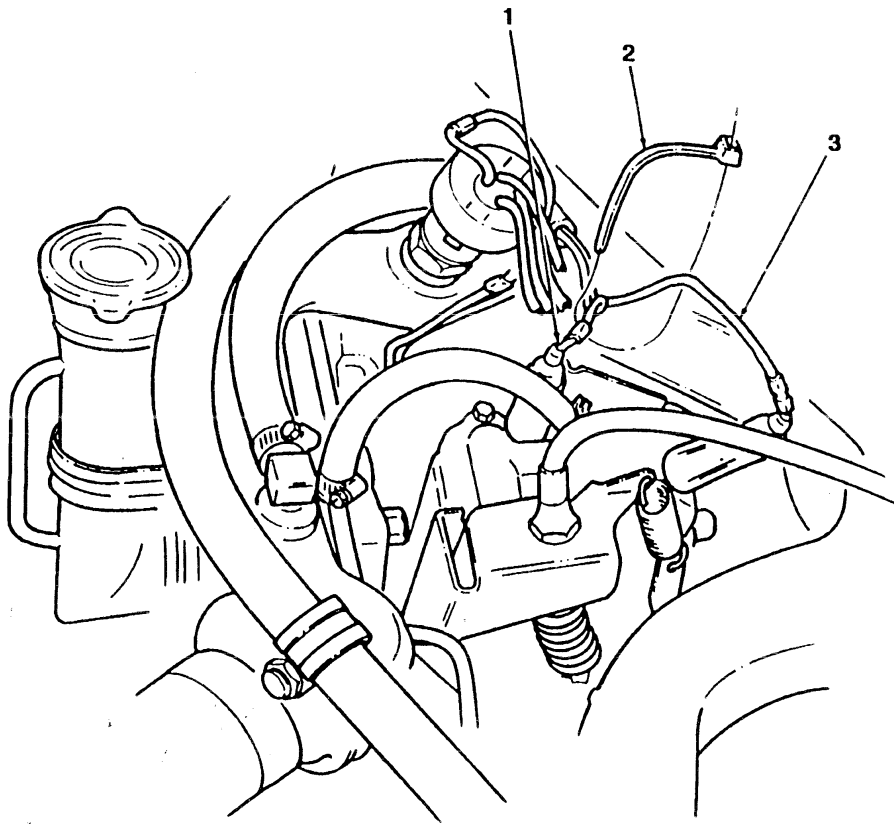

FIGURE 3-10
D. Repositioning Injector Pump Wire 569B. Secure injector pump wire 569B (3) to injector pump wire 54A (1) with NSN 5975-00-074-2072 tiedown strap (2). (see figure 3-10)